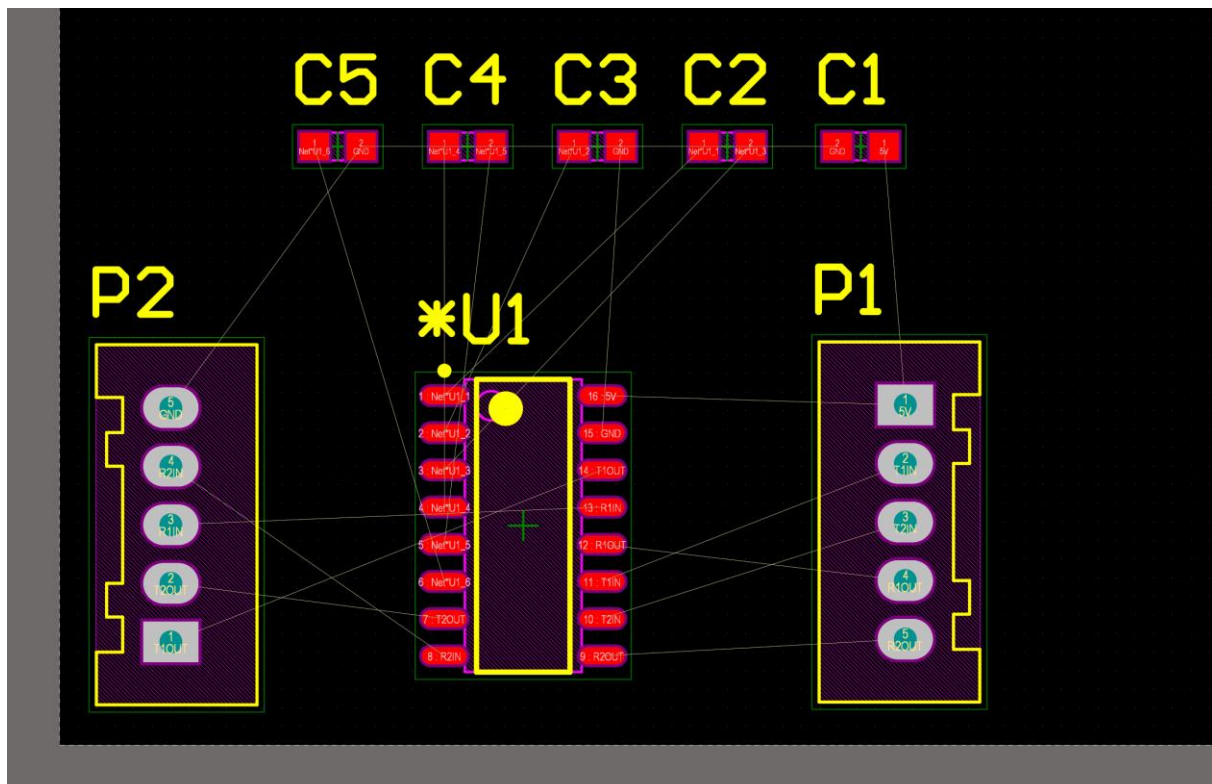

Figure 6: Initial Organization of PCB Layout
11. Move your components to the bottom left corner and organize them in a similar style as Figure 6.